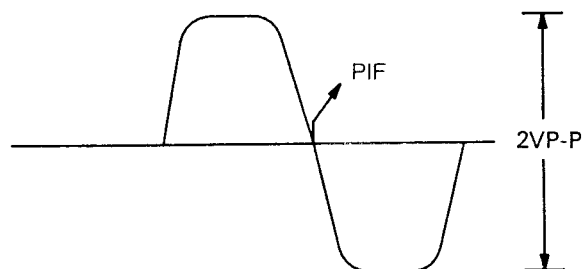

Figure 10. AFC Response Alignment
5. Adjust T172 for response shown in Figure 10 to be minimum amplitude of VIF keying pulse.